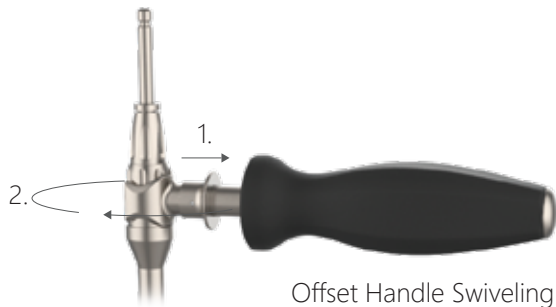

Figure 9b
- While the Offset Handle is attached, it can be rotated about the Outer Shaft by pulling the quick connect collar (1.) and swiveling (2.) to the desired point (Figure 9b).